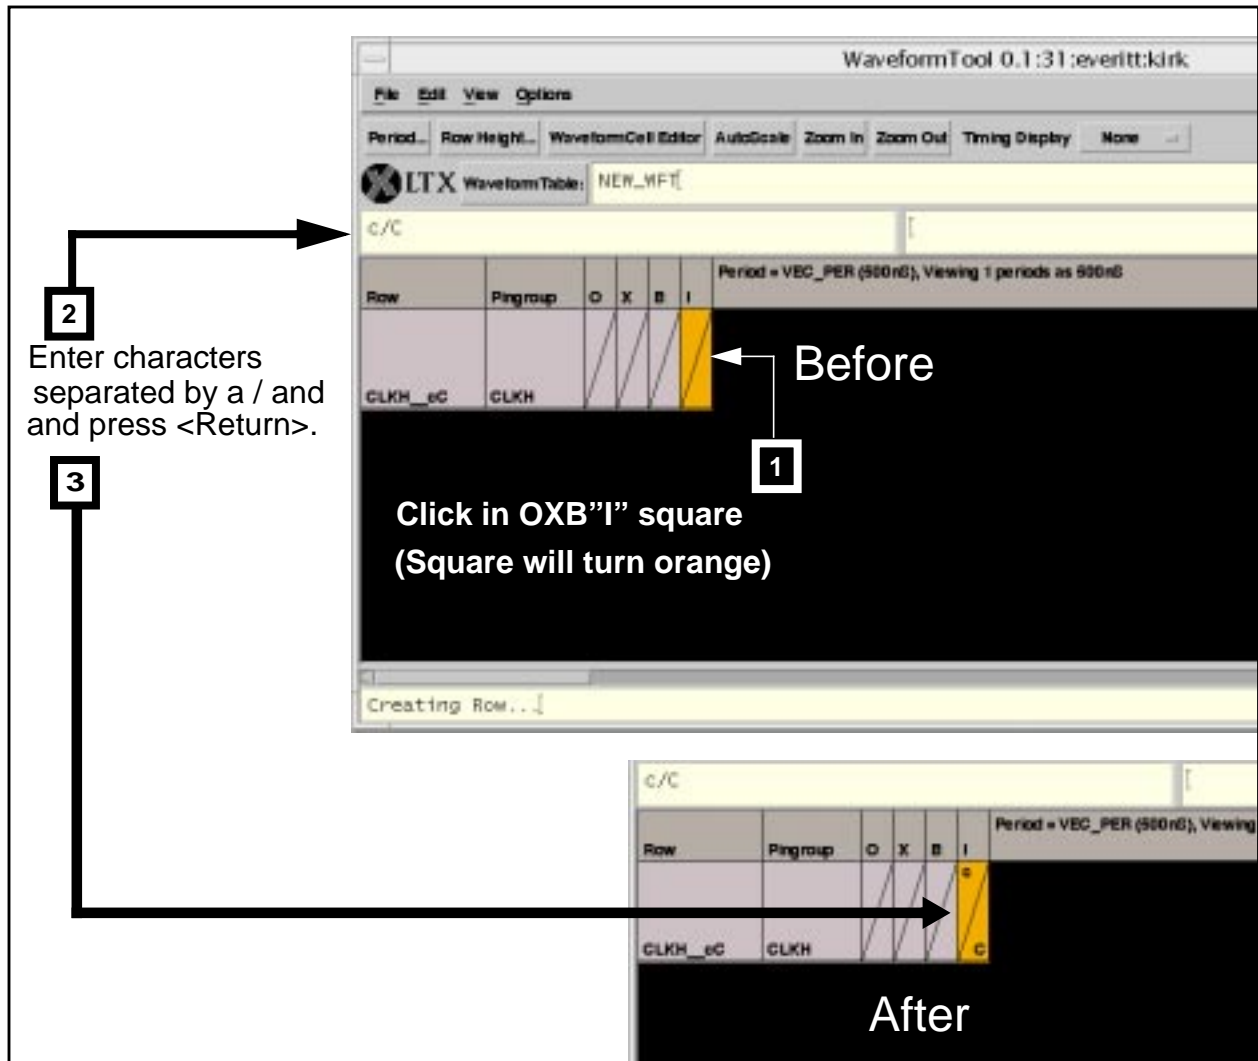

Figure 2.31: Adding Alias Characters to a Row
1. Click M1 in the appropriate OXBI column; refer to Figure 2.31.